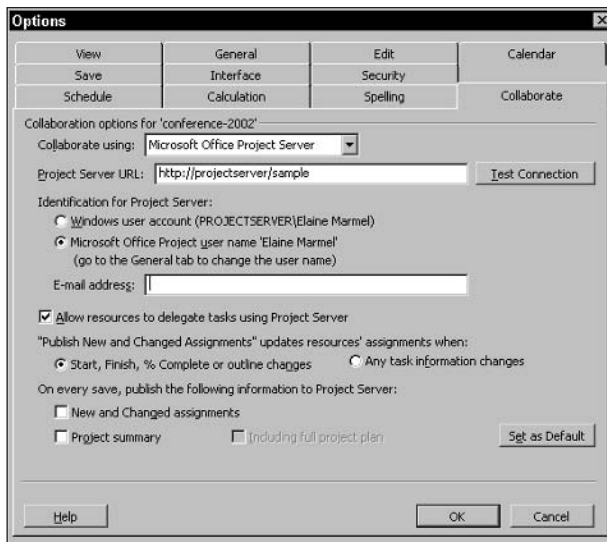

Figure 20-6: To set a project's options for Web communication, use the Collaborate tab in the Options dialog box.
2. Click the Collaborate tab, as shown in Figure 20-6.